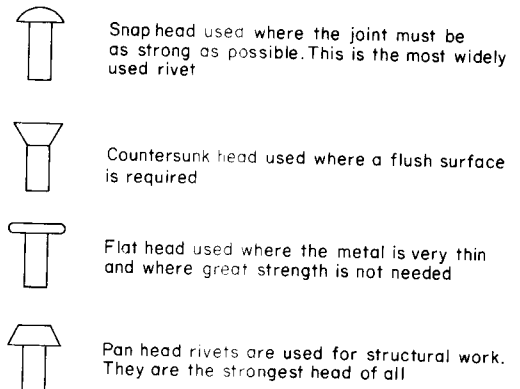

Fig. 4.98 Types and uses of rivets
**Types of rivets.** Fig. 4.98 shows various types of rivets and their uses. Riveted joints are made (wherever possible) so that the rivets are in shear. It is generally bad practice to allow rivets to be in tension.